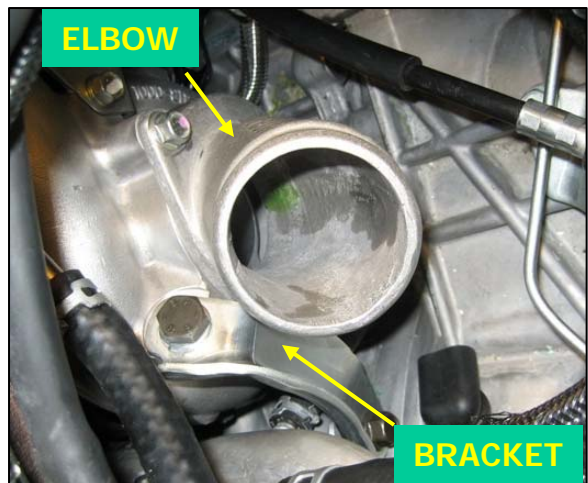

Fig. 12
- 13. From the driver's side, find the steel bracket that braces the compressor housing to the engine block. Remove this bracket, noting orientation. This part will be reused (2 bolts, 17mm socket/wrench). See *Fig. 12*.
- 14. Remove the cast aluminum inlet elbow from the compressor housing, along with its gasket. The bolts will be reused but the elbow and gasket will not (3 bolts, 12mm socket). See *Fig. 12*.